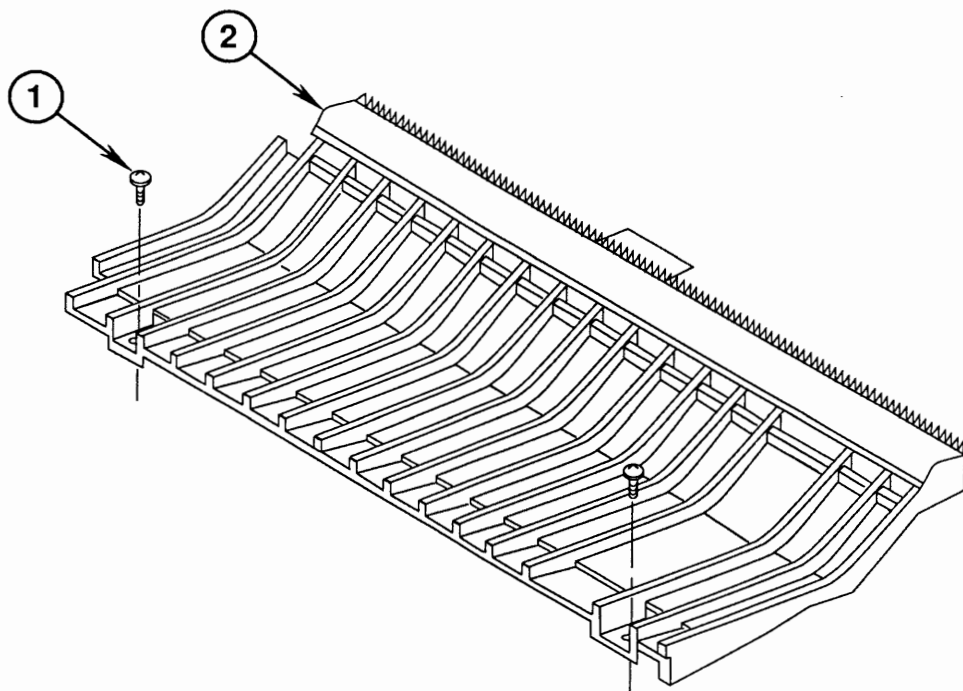

FIGURE 2
- 6.9 Feeder Guide Assembly (Figure 2)
□ LASERWRITER – FEEDER GUIDE ASSEMBLY (Figure 2)